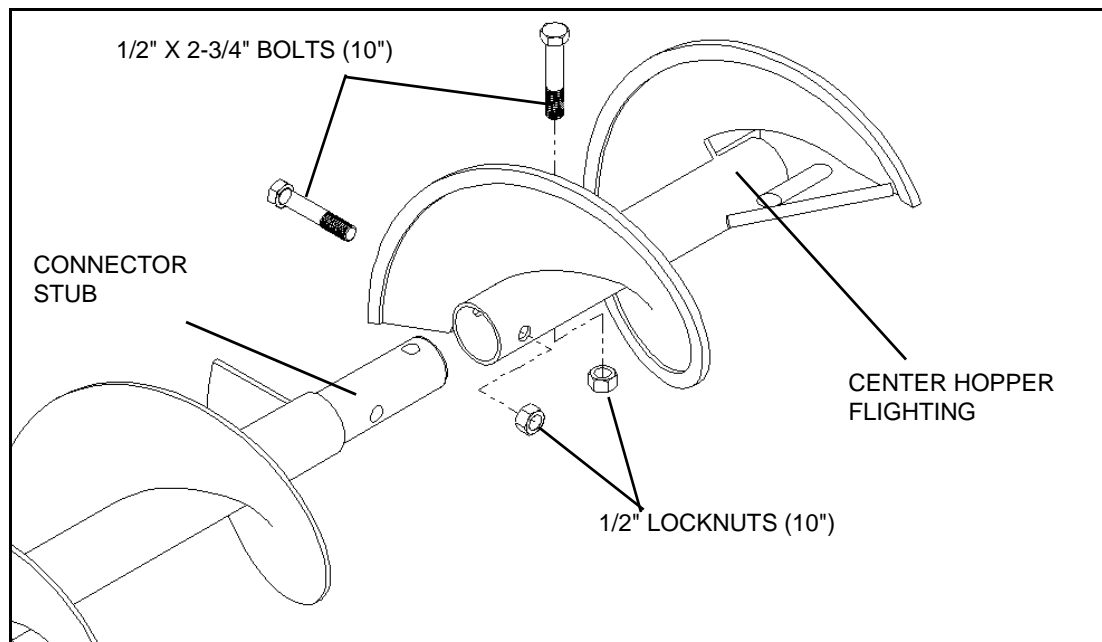

Figure 3.11
1. Attach the short center hopper flighting piece to the appropriate end of underfloor flighting. As shown in Figure 3.11, slide the connector stub into the short flighting piece.